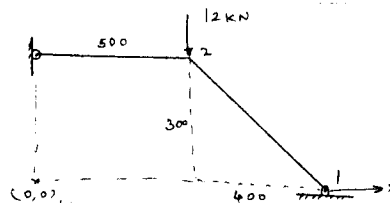

Fig. Q6(b)
b. For the two - bar truss shown in Fig. Q6(b) determine the nodal displacement. Take  $E = 200$  GPa;  $A_1 = A_2 = 200 \text{ mm}^2$ . (12 Marks)